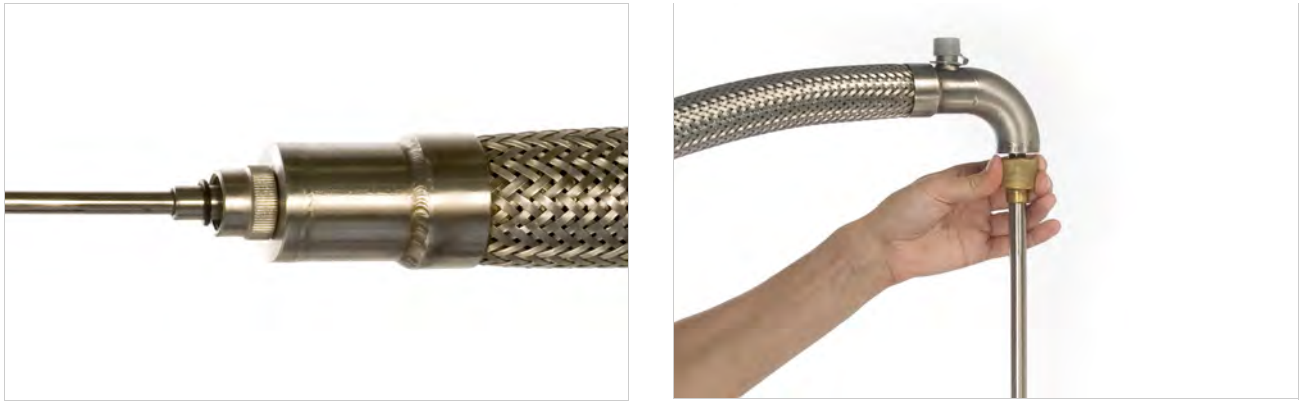

FIGURE 4-13 Left: Bayonet compression fitting on the transfer line shoulder; Right: Opening the foot valve
8. Prepare the transfer line by placing the bayonet compression fitting onto the transfer line shoulder (FIGURE 4-13).
9. Close the transfer line foot valve (FIGURE 4-13) to establish zero.